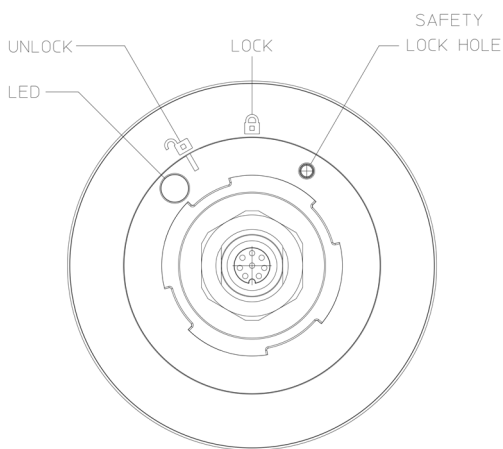

FIGURE 22: ROOF MOUNT INSTALLATION STEP 4 (BOTTOM SIDE OF THE LT-300 GNSS RECEIVER)
Step 4: Please refer to *NMEA 0183 Baud rate* on page 26 for details on NMEA 0183 baud rate settings and *LED Color Description* on page 29 for LED color description. Figure 22 is illustrating the bottom side of the LT-300 GNSS Receiver; highlighting the 2-color LED, the locking symbols, and the safety lock hole.